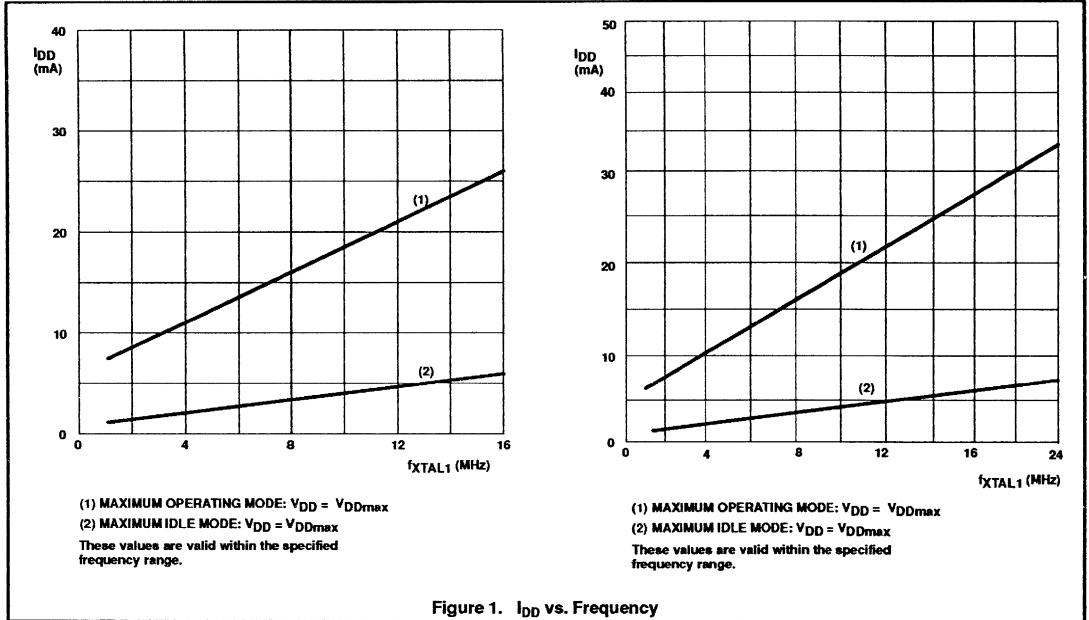

Figure 1.  $I_{DD}$  vs. Frequency
- $I_{DDMAX}$  for other frequencies can be derived from Figure 1, where FREQ is the external oscillator frequency in MHz.  $I_{DDMAX}$  is given in mA.